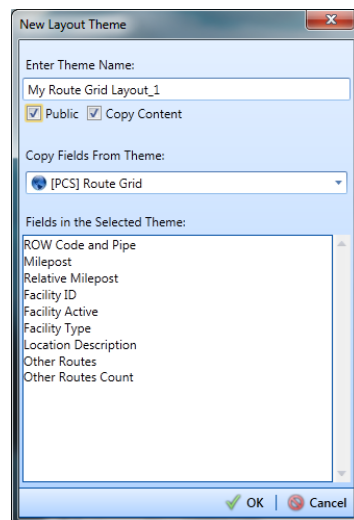

Figure 8-42. New Layout Theme
- 4 Click  **Add** to open the *New Layout Theme* dialog box (Figure 8-42, page 393).